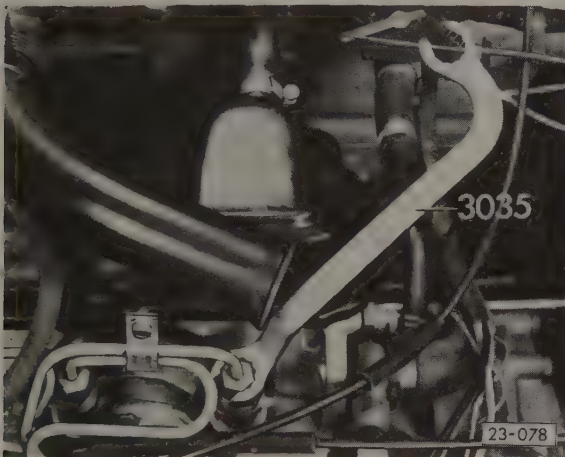

Fig. 3-1. Open end box wrench (Volkswagen special tool no. 3035 or equivalent) being used to loosen fuel union nut at the injector.
When troubleshooting starting problems, check to determine whether fuel is being delivered to the injectors. First check visually for fuel leaks at the injector pipe unions or around the injector pump timing plug. To test fuel delivery, slightly loosen the fuel union nut on the fuel injector pipe for No. 1 cylinder, either at the pump or at the injector. See Fig. 3-1. Crank the engine and look for signs of fuel leakage at the loosened union.
2. Slightly loosen one of the fuel union nuts on a fuel injector pipe, either at the pump end or the injector end, as shown in Fig. 3-1, above.